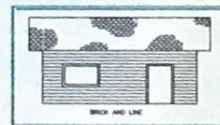

Fig. 20-8
2. Create the simplified house elevation shown in Fig. 20-8. Use the SKETCH command to define temporary boundaries for the hatch patterns on the roof.